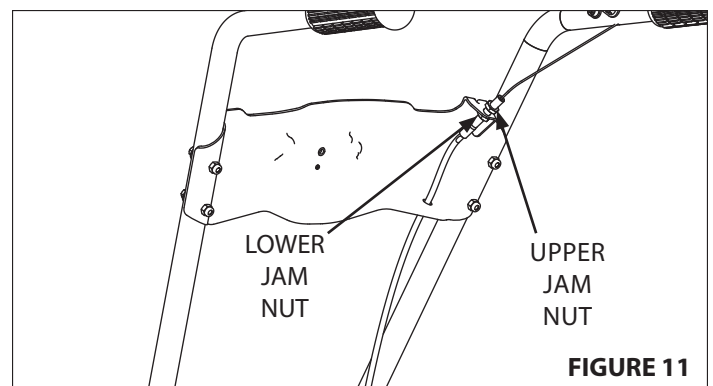

FIGURE 11
### SEE FIGURE 11
5. To adjust, **SEE FIGURE 11** and Belt Tension Adjustment instructions.